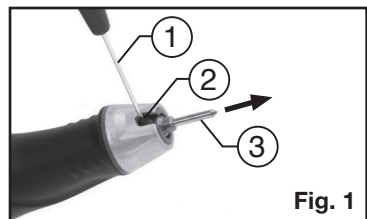

Fig. 1
1. Check to make sure the engraving tip is in good condition and is properly installed in the tool (Fig. 1).
1. Insert a small slot screwdriver (1) into the engraving tip set screw (2) (Fig. 1).
2. Turn the set screw counter clockwise to release the engraving tip (3). When the engraving tip is released, pull it out of the tool.